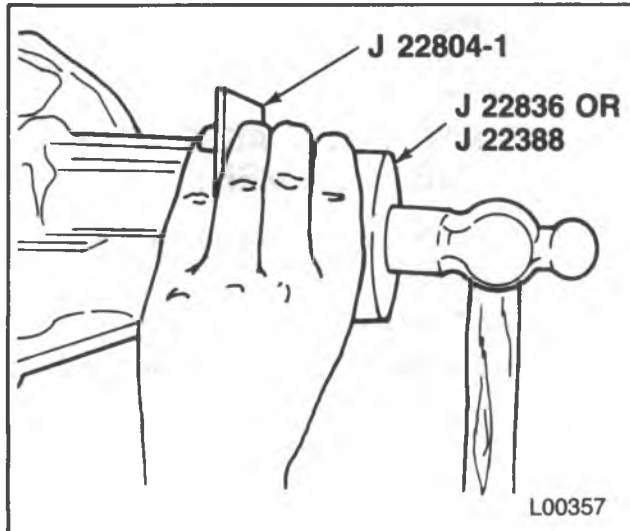

Figure 21 — Installing the Pinion Seal
- Position the oil seal in the bore. Place J 22804-1 over the oil seal and flat against the seal flange (figure 21).
- Use J 22836 for the 8 1/2-inch ring gear or J 22388 for the 9 1/2-inch ring gear to press the oil seal into the bore (figure 21).